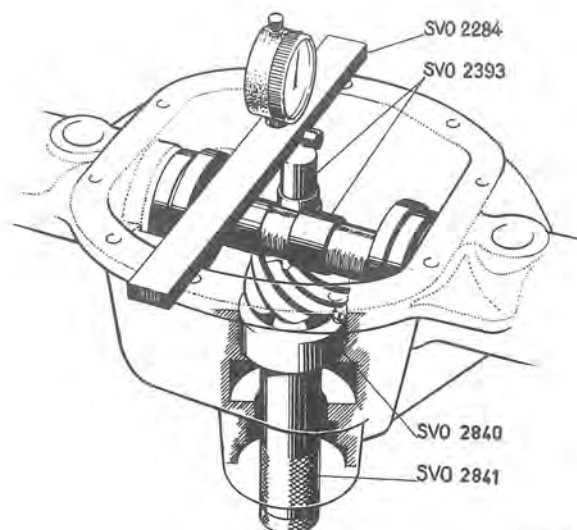
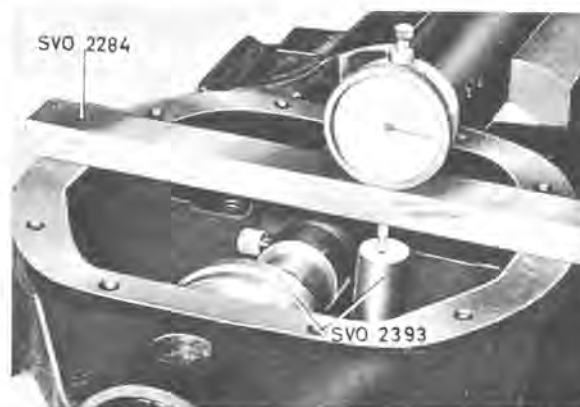

Fig. 4-152. Locating measuring tools
Fig. 4-153. Zero-setting indicator
1. Clean the marking surface on the pinion with extremely fine emery cloth. Fit the adjusting ring SVO 2840 and tool SVO 2841 on the pinion, see Fig. 4-150. Place the pinion in the carrier, see Fig. 4-152, and secure the adjusting ring by screwing in the lock screw.
Place the pinion gauge on the ground surface of the pinion and the adjusting jig in the differential bearing positions as shown in Fig. 4-152. Place the indicator retainer on the drive pinion carrier and zero-set the gauge against the adjusting jig, see Fig. 4-153. Then move the indicator retainer over so that the indicator comes against the pinion gauge, see Fig. 4-154. If the pinion is marked 0, the adjusting jig and pinion gauge should be at the same height; if the pinion is marked —, the pinion gauge should be higher than the adjusting jig; and if it is marked +, the pinion gauge should be lower than the adjusting jig with correct setting. The setting is adjusted by turning the cam on the pinion until the gauge dial shows the correct value according to the marking. Then lock the